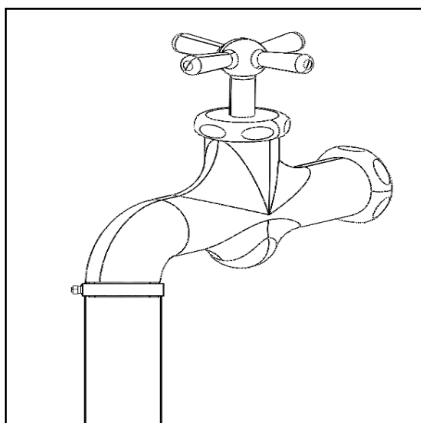

FIGURE 10-16
3. Prepare a hose. Attach the hose to a water supply main (Fig. 10-16).